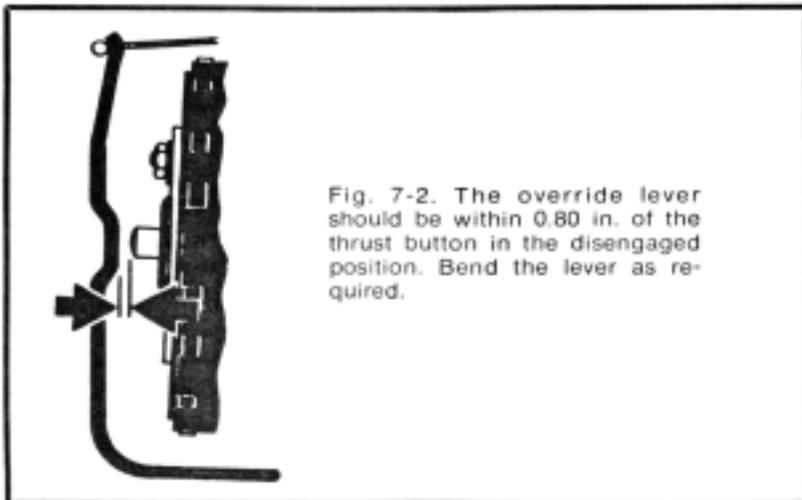

Fig. 7-2. The override lever should be within 0.80 in. of the thrust button in the disengaged position. Bend the lever as required.
**Service.** The only internal adjustment is the clearance between the override lever and the thrust button. Bend the lever to obtain 2.0 mm (0.80 in.) clearance in the disengaged position (Fig. 7-2).